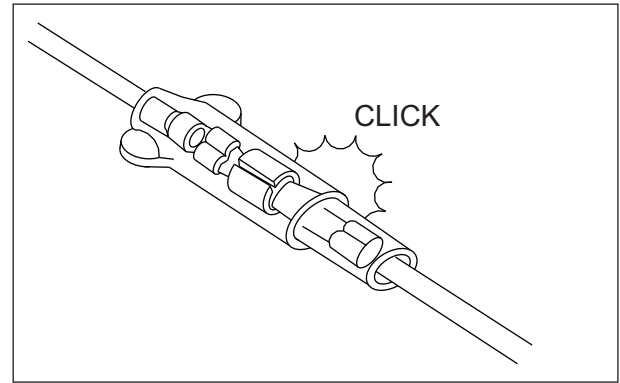

Fig. 5.1
- When connecting a connector, be sure to push it in until a click sound is felt. (Fig. 5.1)